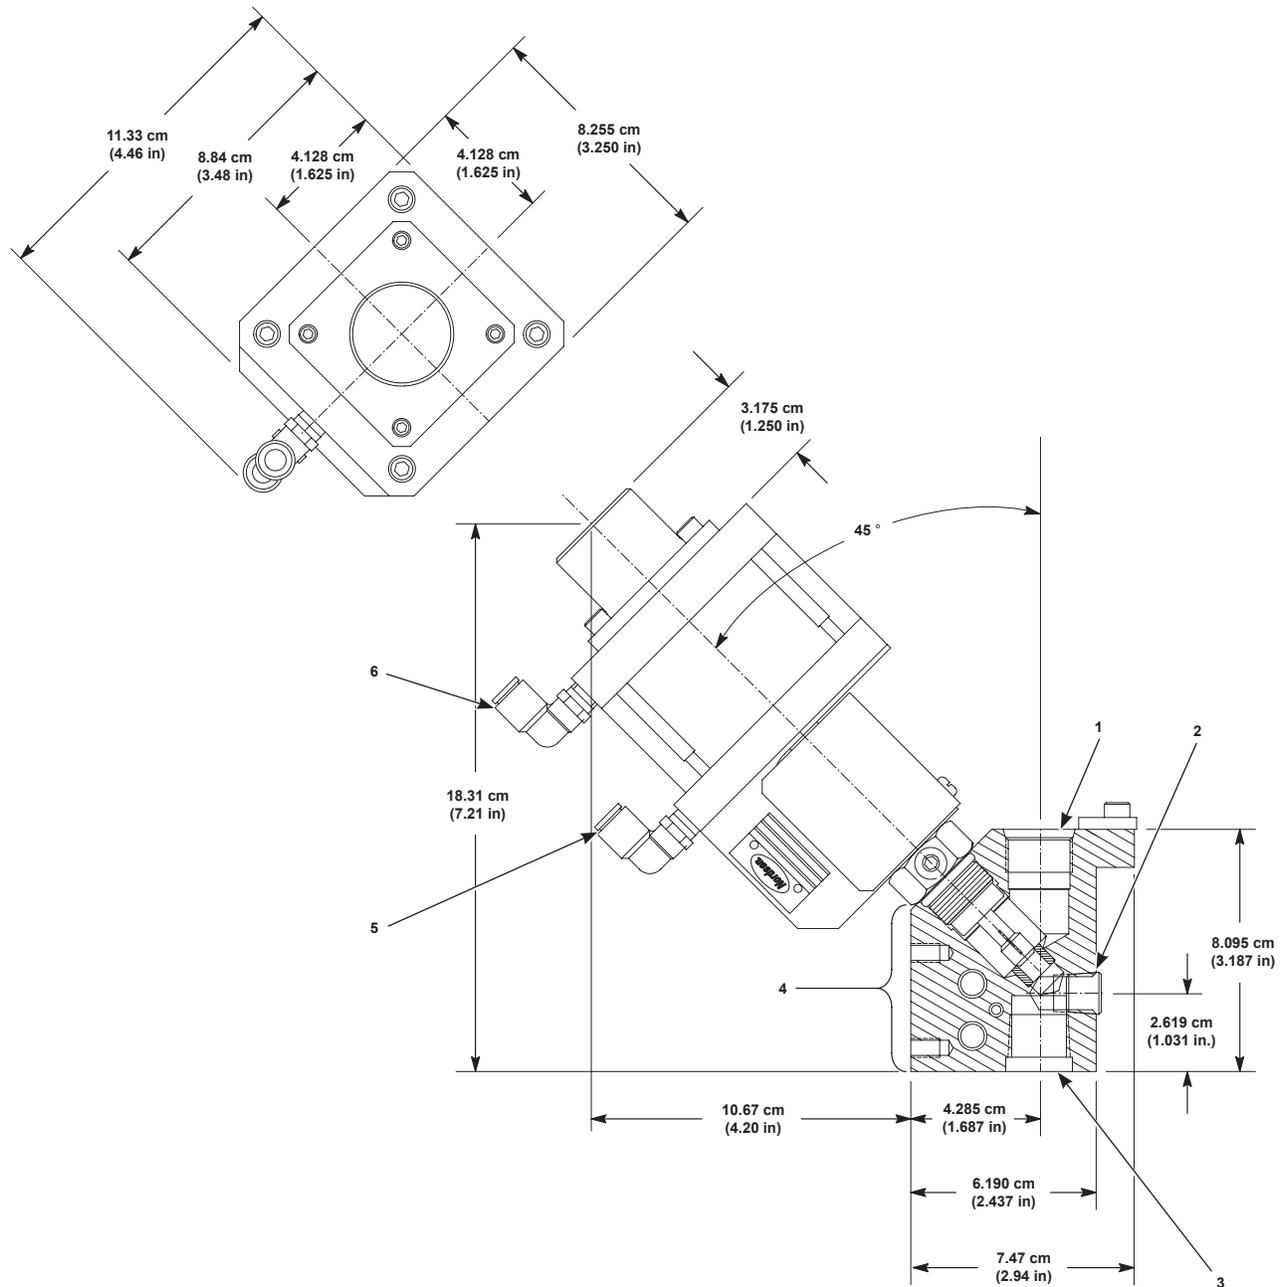
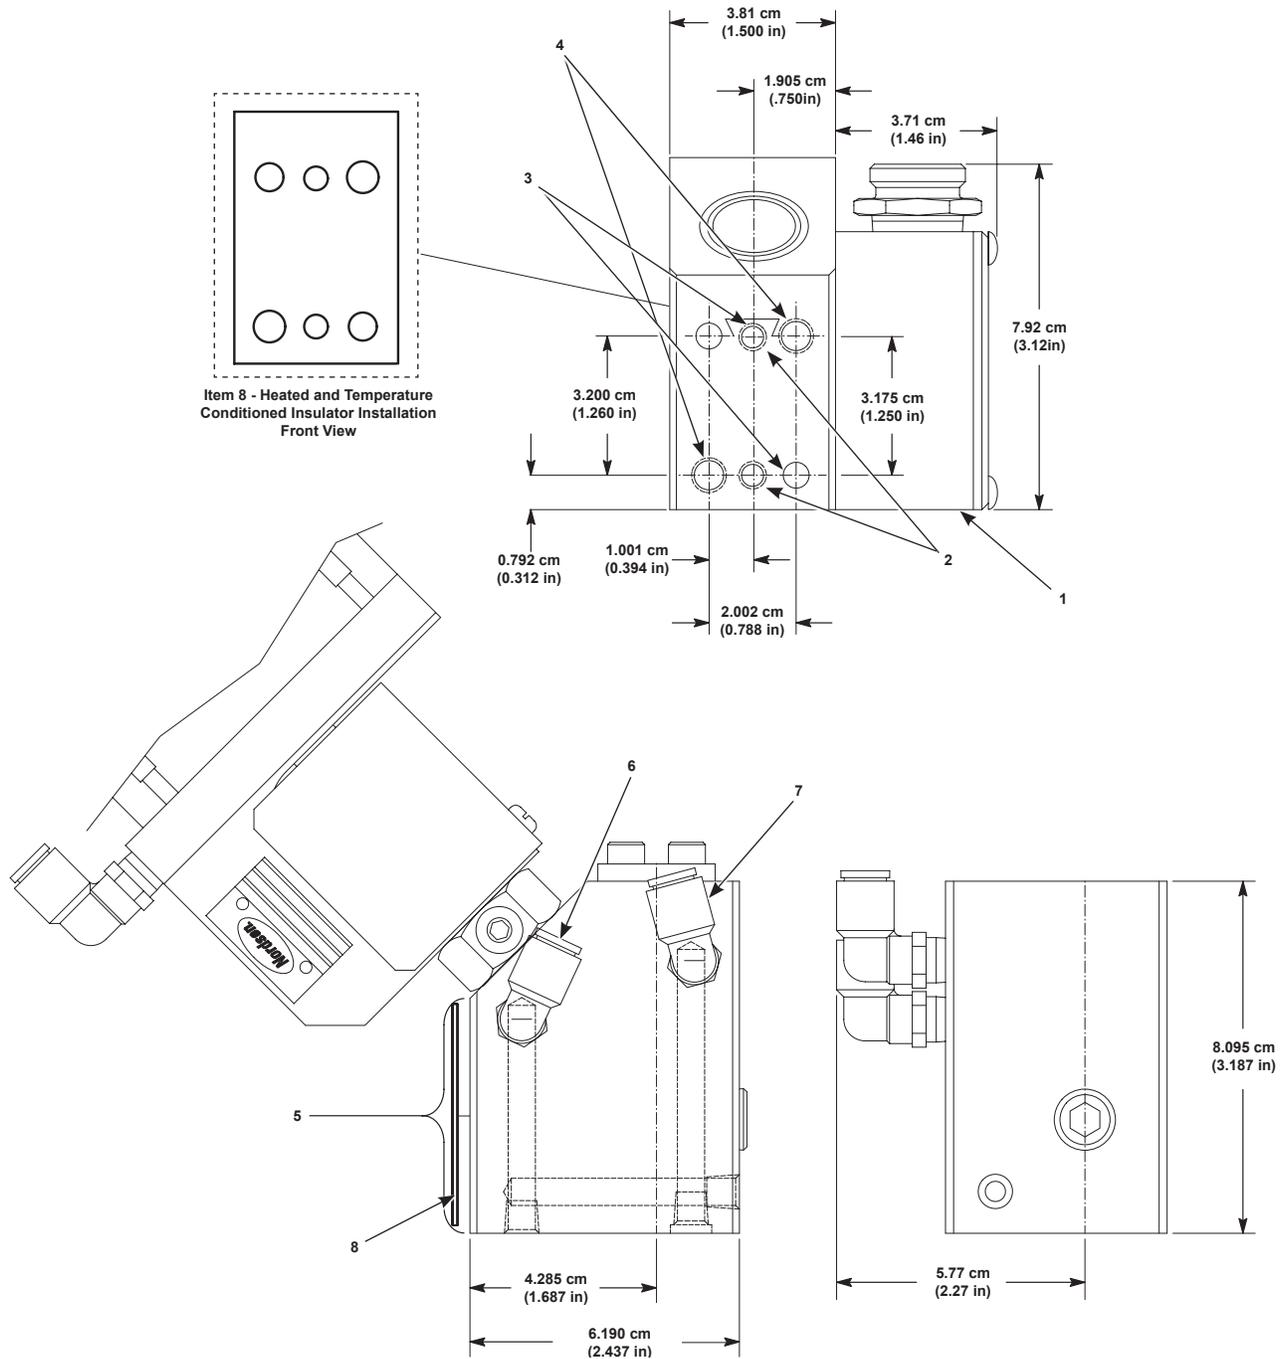
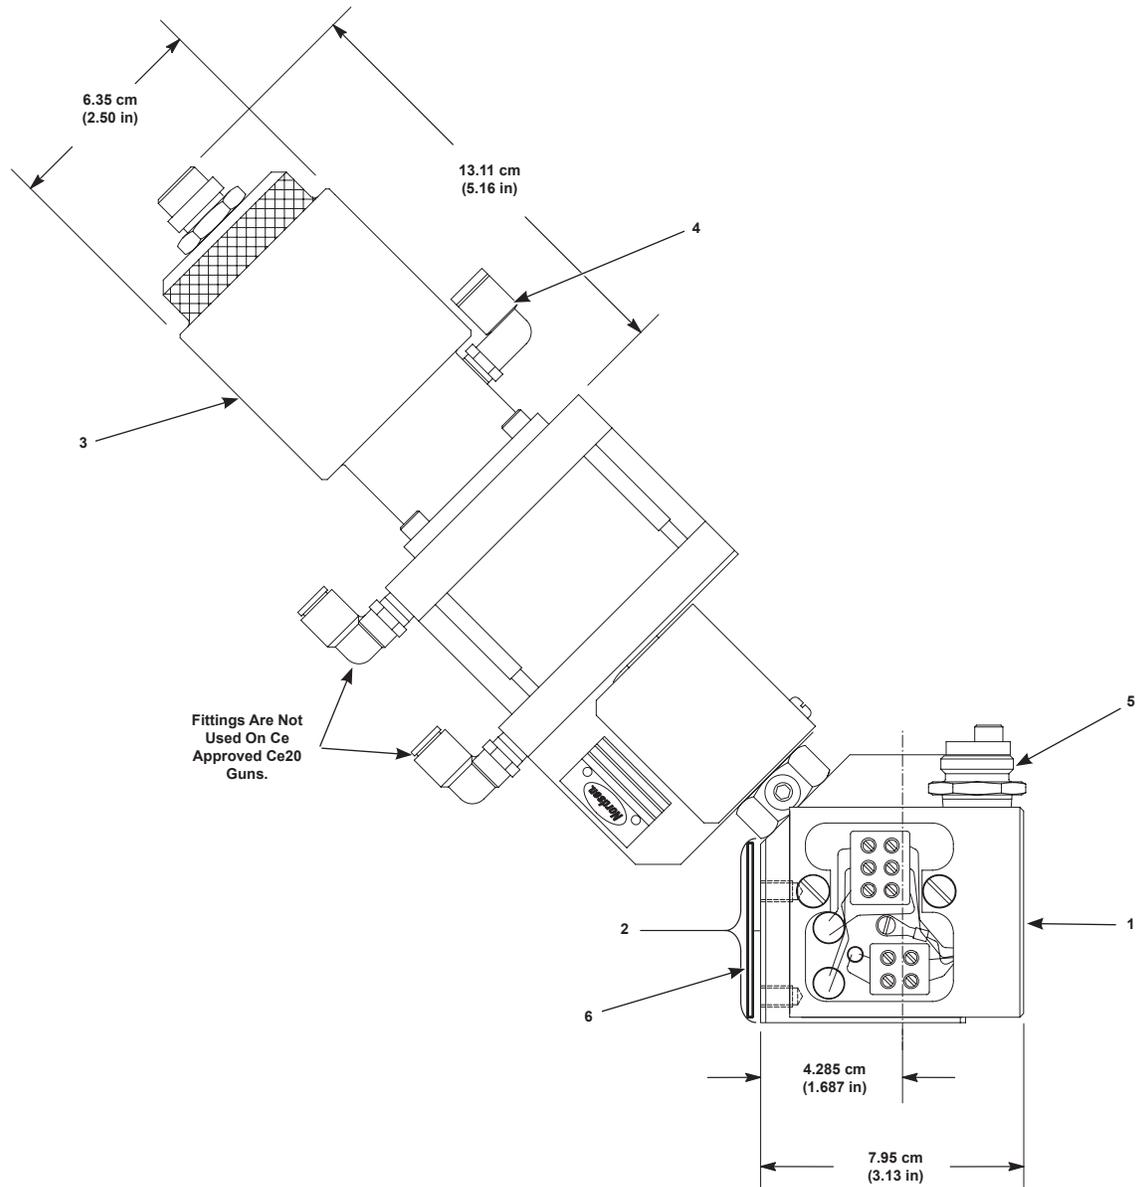

Figure 3 Typical CE20 Gun Dimensions (Unheated Gun and Top View)
Figure 4 Temperature Conditioned CE20 Gun and Surface Mounting Dimensions
Figure 5 Typical Heated CE20 Gun Dimensions with Spring Closure Assembly Option
See Figure 3 through Figure 5 for the mounting dimensions specific to your model of CE20 gun. Figure 3 shows the mounting dimensions of the unheated gun and the top view typical of a guns. Figure 4 shows the mounting dimensions of a temperature conditioned gun and the surface mounting dimensions typical of all guns. Figure 5 shows the mounting dimensions of the heated gun and of the optional spring closure assembly.
See Figure 4. Mounting the gun to a robot arm requires the use of a customer-supplied end-of-arm tooling that has been specifically designed for the application. The CE20 guns have a mounting surface (5) that allows for several optional mountings: with 1/4-in. dowel pins (3), 1/4-20 mounting bolts (2), or M8 x 1.25 mounting bolts (4).
1. See Figure 3. Connect an air line from the gun-closed solenoid to the elbow at the gun-closed air port (6).
2. Connect an air line from the gun-open solenoid to the elbow at the gun-open air port (5).
3. See Figure 5. If your gun is equipped with an optional spring closure assembly, connect an air line to the spring closure assembly air inlet port (4).
See Figure 4. To install the temperature conditioning supply lines, connect a coolant hose to the temperature conditioning inlet port (6) and another hose to the temperature conditioning outlet port (7).